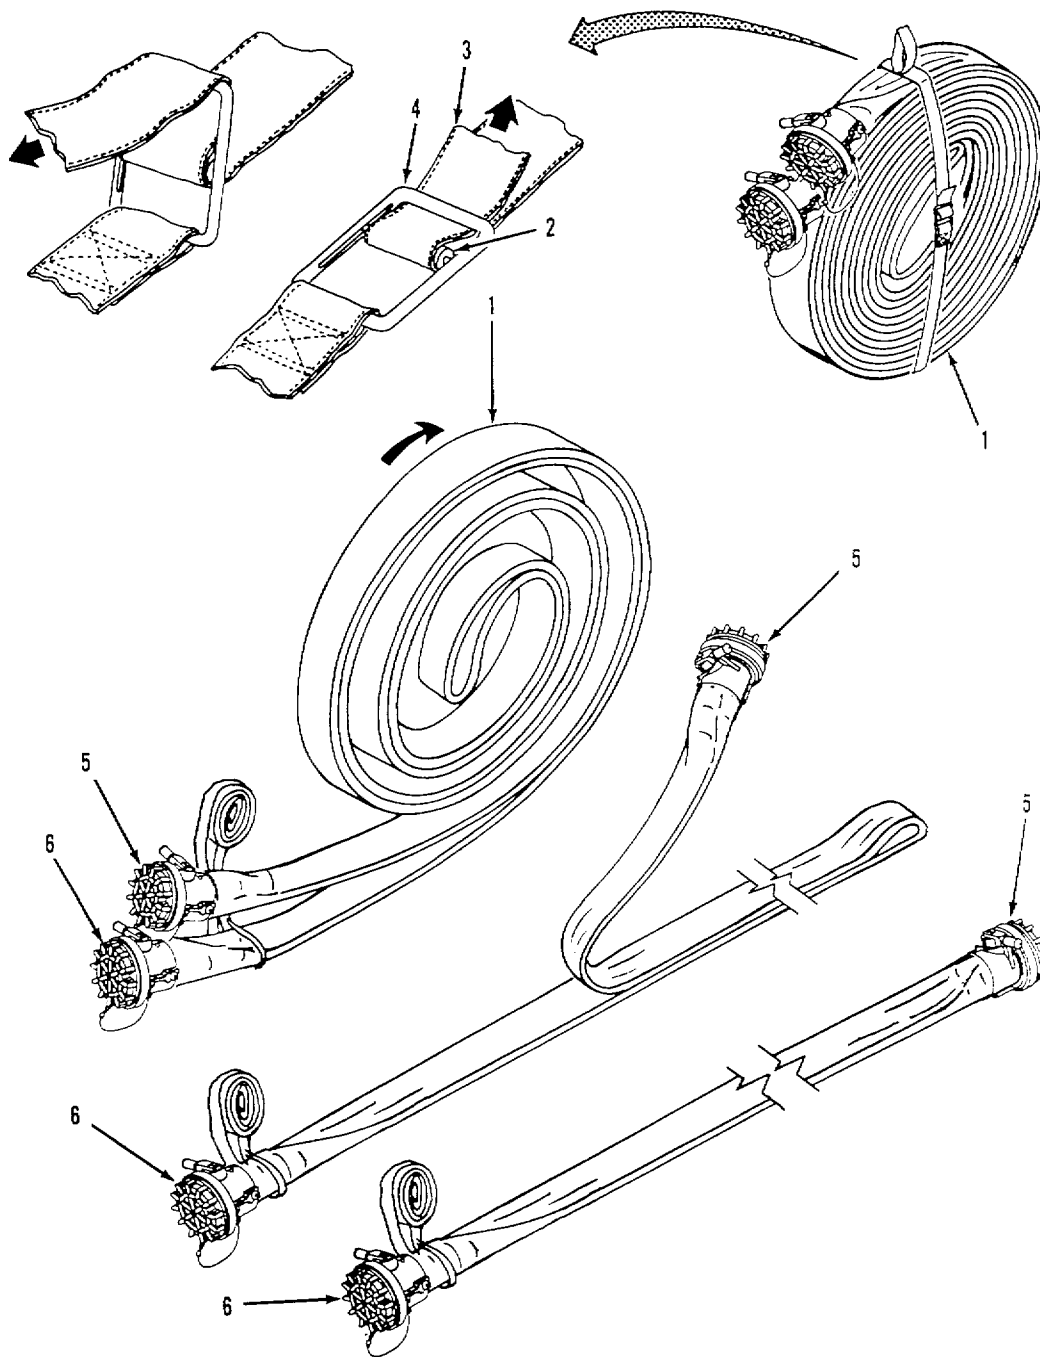

Figure 2-7. Unrolling Fuel Hoses.
- (1) Remove HTARS components from transport vehicle.
- (2) To aid assembly, separate components into groups of similar parts during removal. For example, group all the fuel hoses together, then all the tees, elbows and nozzles.
- c. Unrolling Fuel Hoses. Refer to figure 2-7.
- (1) Position rolled fuel hose (1) at first connection point.
- (2) Pull tag end of hose strap (3) against buckle (4) until slide (2) releases tension on strap. Remove tag end of strap from buckle.
- (3) Unroll fuel hose (1) in direction of next connection point.
- (4) When end of roll is reached, go back to coupling ends of hose and pull one end to next connection point.
- (5) Swivel dry break couplings (5 and 6) so that control arms are facing up.